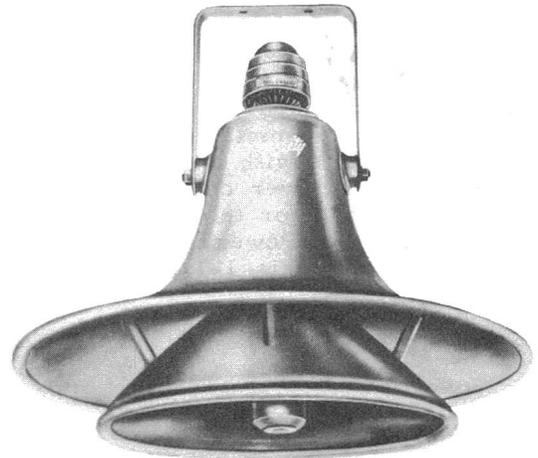

Figure 56 - University RPH
3.74 The University RPH loudspeaker is a radial reflex projector giving uniform  $360^{\circ}$  horizontal dispersion. When used with the University SA-30 transformer it will deliver 30 watts of power. Total weight is 26 pounds. It is useful in large industrial applications where high ceilings exist and general construction is steel, concrete, or sheet iron. This loudspeaker is shown in Figure 56.